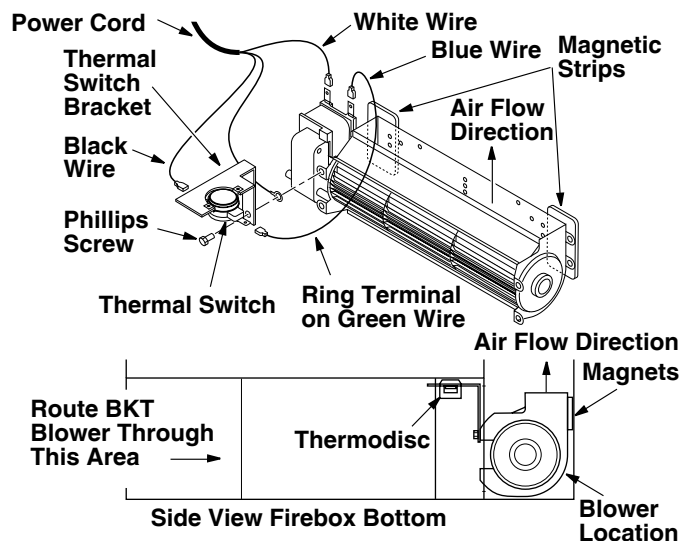

Figure 37 - Blower Model BKT
1. Place the green ground wire with ring terminal between the bottom hole on the thermal switch bracket and the top ear hole on the blower assembly. Insert the phillips screw into all three pieces and tighten securely (see **Figure 37**, page 19).
3. Place the blower against the lower rear wall of the firebox outer wrapper with the exhaust port directed upward and the thermdisc positioned up near the fireplace bottom. The thermdisc must be oriented near the fireplace bottom as shown in **Figure 37**, page 19, in order to sense temperature and properly operate. The blower will be held in position against the back wall by the magnets incorporated onto the blower housing (see **Figure 37**, page 19).